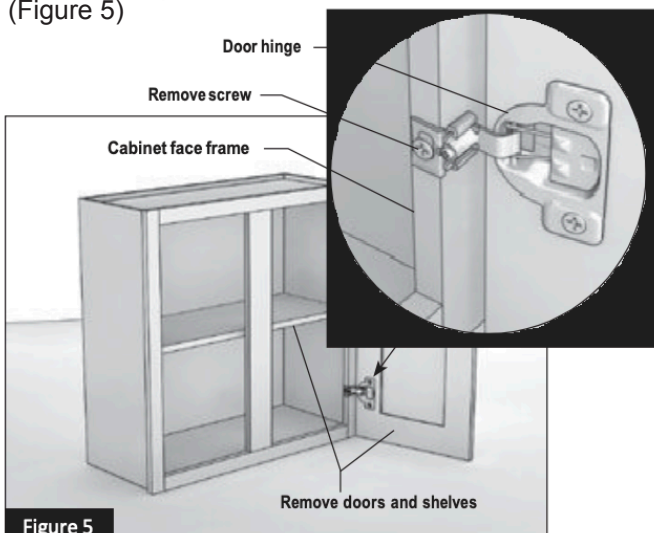

Figure 5
- 2.1 Remove all shelves and doors. You might want to mark (or carefully stack them in position) for reinstalling later. This will make the cabinets lighter and easier to handle. (Figure 5)